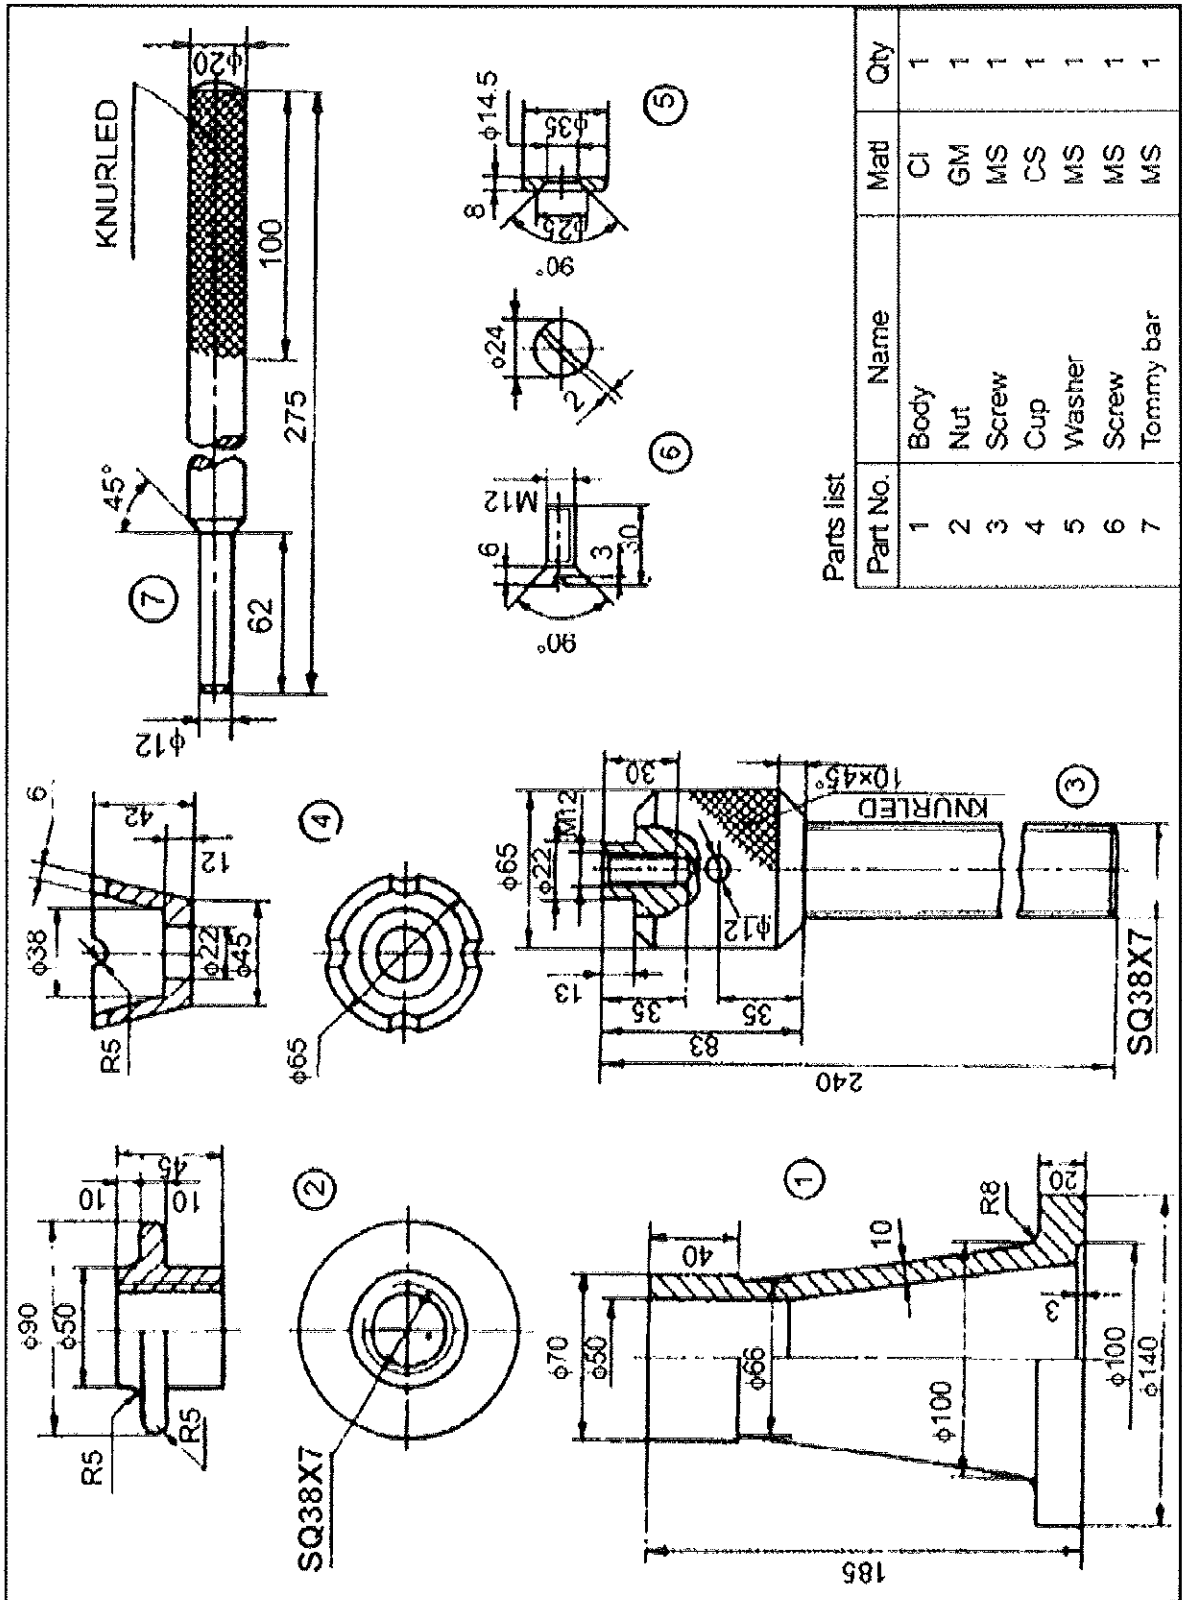

Figure 2
- Q. No. 6.** Part drawings of Screw Jack are shown in following figure 2. Assemble the parts and draw the following views.